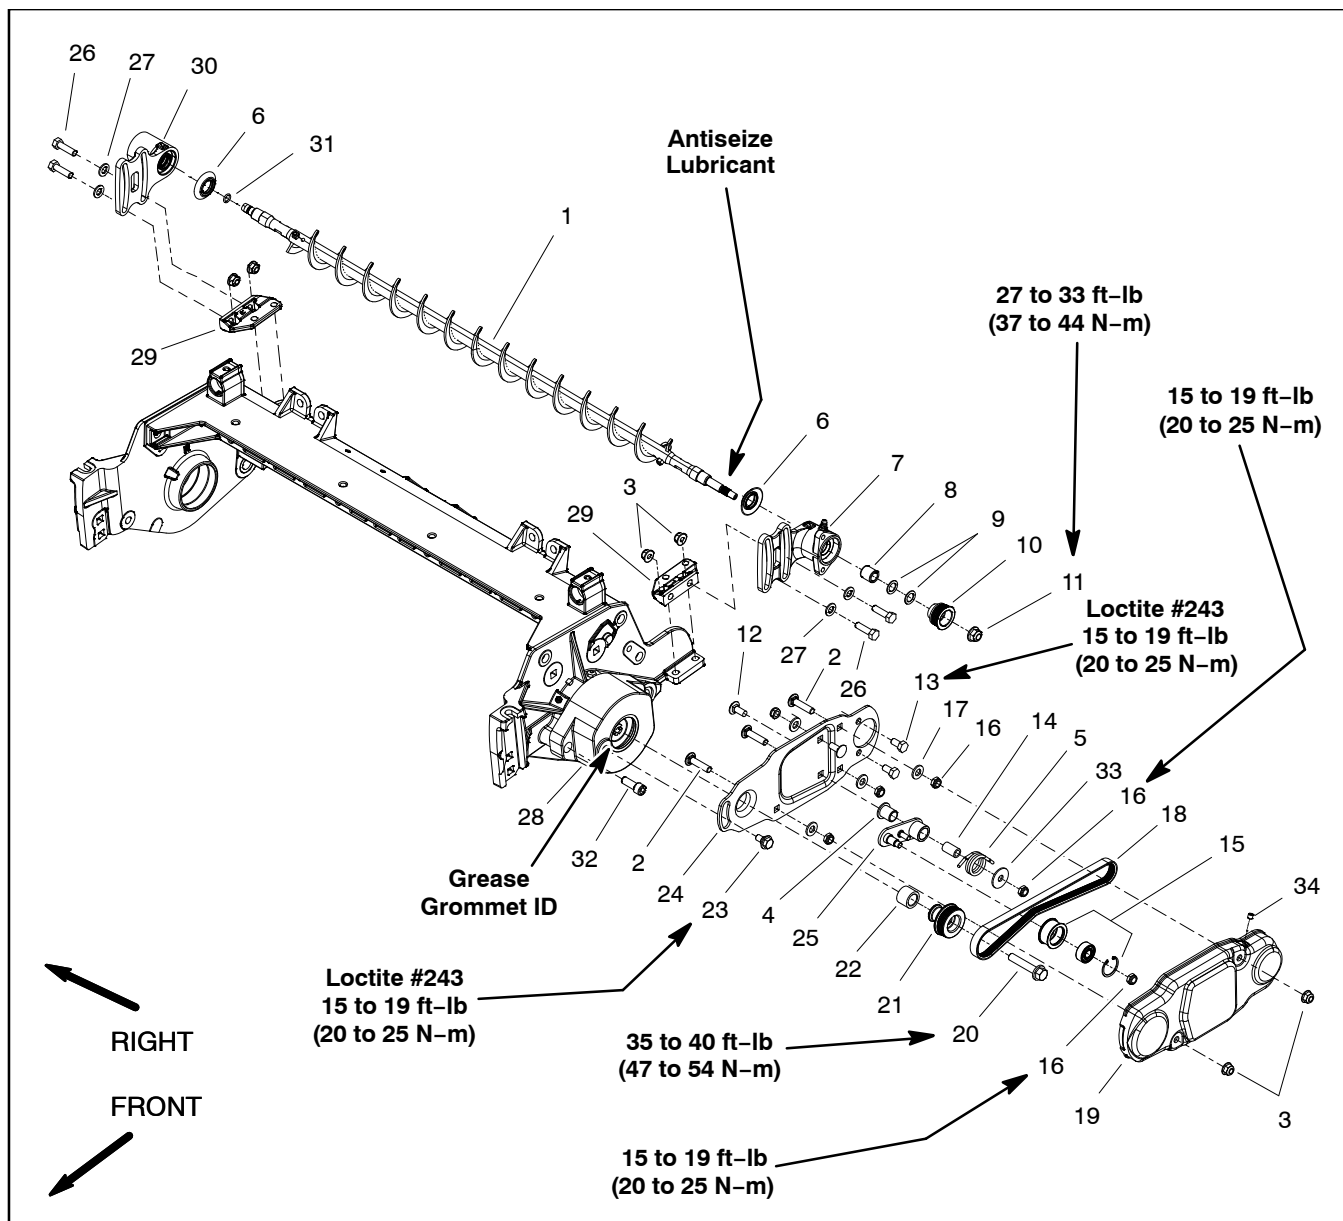

Figure 54
**NOTE:** Drive components for the rear roller brush are located on the opposite side of the cutting unit from the cutting reel hydraulic motor. Figure 54 shows components used when the brush drive is on the left side of the cutting unit.
## Disassembly (Fig. 54)
4. Disassemble roller brush components as necessary using Figures 54 as a guide.
## Assembly (Fig. 54)
4. Assemble roller brush components using Figure 54 as a guide.
B. Apply Loctite #243 (or equivalent) to threads of cap screws (item 13) that secure brush plate to driven bearing housing assembly. Torque cap screws from **15 to 19 ft-lb (20 to 25 N-m)**.
C. Check that brush plate is parallel to cutting unit side plate. If necessary, change position of mounting bracket (item 29) to allow brush plate to be parallel to side plate.
D. Apply Loctite #243 (or equivalent) to threads of flange head screw (item 20) that secures drive pulley to drive shaft. Torque flange head screw from **35 to 40 ft-lb (47 to 54 N-m)**.
E. Apply antiseize lubricant to splines of roller brush shaft before sliding hardened washer(s) (item 9) and driven pulley (item 10) onto shaft. Torque flange nut (item 11) that secures driven pulley to roller brush shaft from **15 to 19 ft-lb (20 to 25 N-m)**.